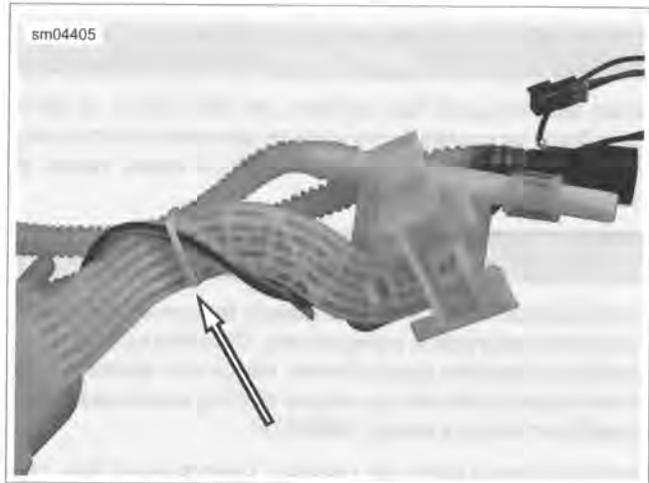

Figure 4-39. Cable Wires in Cable Strap
2. Route wire harness rearward and then forward under arm of fuel pump bracket. Install **new** cable strap at elbow capturing fuel pump and transfer tubes at top of arm and wire harness at bottom. See Figure 4-39.